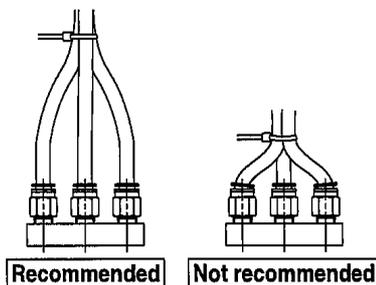

Fig. 2 When using a tying band to bind the piping together
- (1) When connecting piping to the One-touch fitting, use a pipe length with sufficient margin, in accordance with the piping conditions shown in Figure 1.** Also, when using a tying band, etc. to bind the piping together, make sure that external force does not come to bear on the fitting. (see Figure 2)